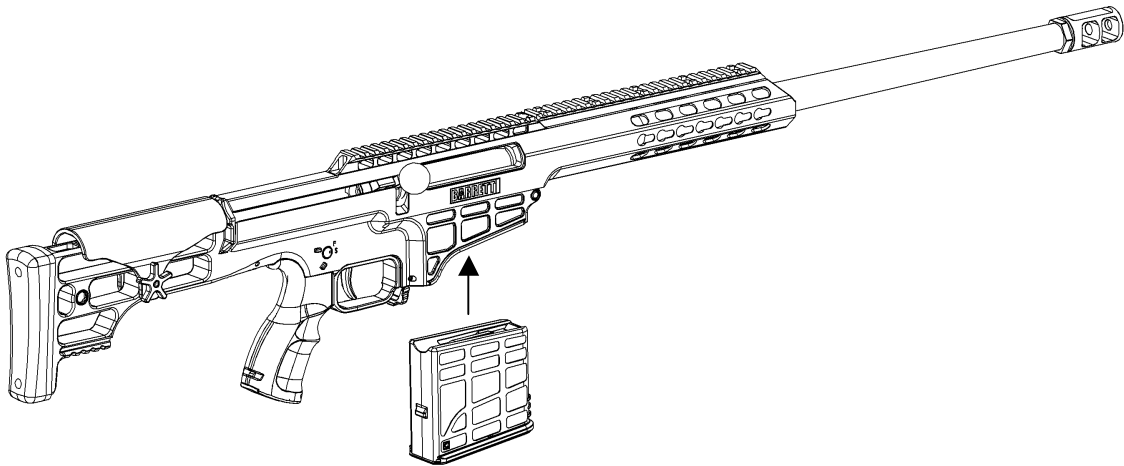

Figure 5. Inserting the magazine.
3. Insert a loaded magazine into the rifle. (Figure 5). The magazine inserts straight into the rifle without hinging.